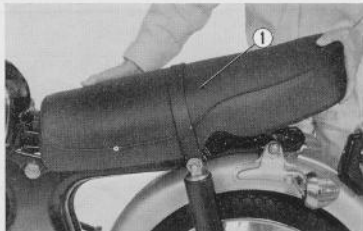

Fig. 4.51 Removing seat ① Seat
① 6 mm nut
② Seat
2. Remove the seat ① by pulling up and back toward the rear. (Fig. 4.51)